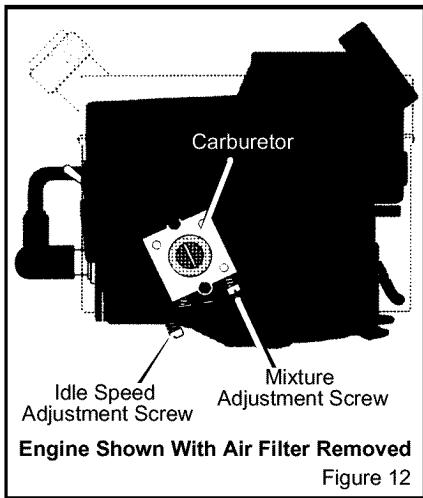

Figure 12
1. Turn the **mixture adjustment screw** clockwise until closed (see Figure 12).